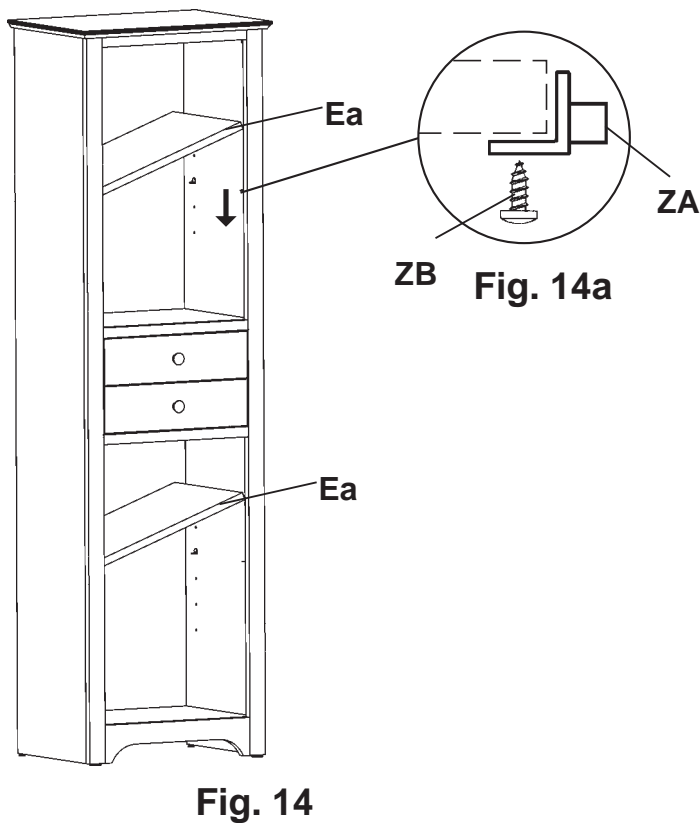

Fig. 14
14. Determine where you want the Adjustable Shelves (Ea) to sit. With the flat side facing down, tap the Shelf Support (ZA) into the holes in the Sides. To attach the Shelf to the Shelf Supports, thread #6 x 1/2" Undercut Screws (ZM) through the holes in the bottoms of the Shelf Supports and into the Shelf. See Figures 14 and 14a.